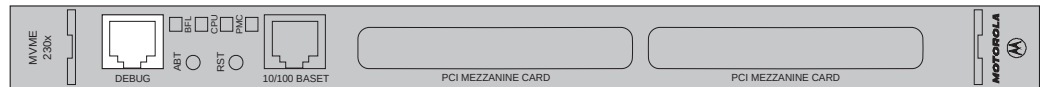

Figure 10 Motorola Board (end view)
- a.) Disconnect the RJ45 cable from the "Debug" port of the Motorola board (see Figure 10).
- e.) Connect the RJ45 cable to the "Debug" port of the Motorola board (see Figure 10).